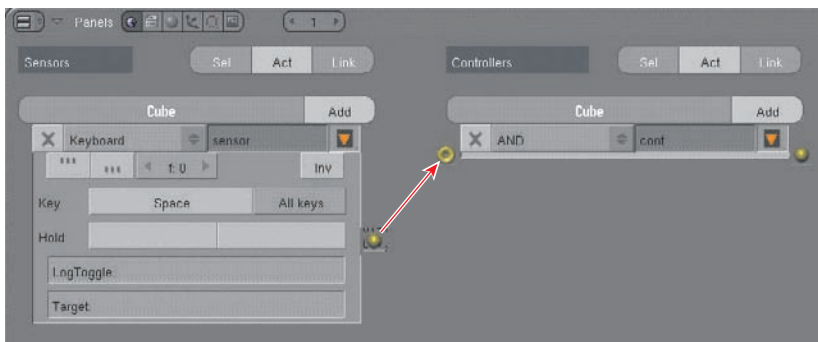

Figure 6.12 Connecting the sensor to the controller
8. A sensor registers the event that will trigger an action. An actuator defines the resultant action. In order to connect these two things, you need to create a controller. Do this by clicking Add under the Controllers (middle) column. Link the sensor to the controller by clicking the LMB and dragging the mouse between the two logic connectors, as indicated in Figure 6.12.